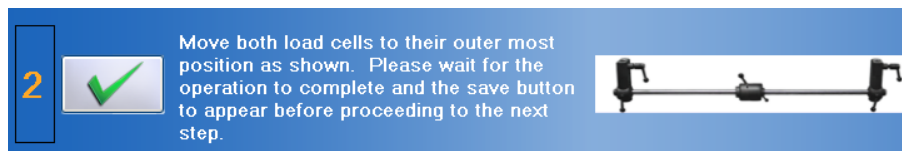

Figure 10-28 UTM - Set the Final Locations
Step 4. Click on  to set the final locations (Figure 10-28).